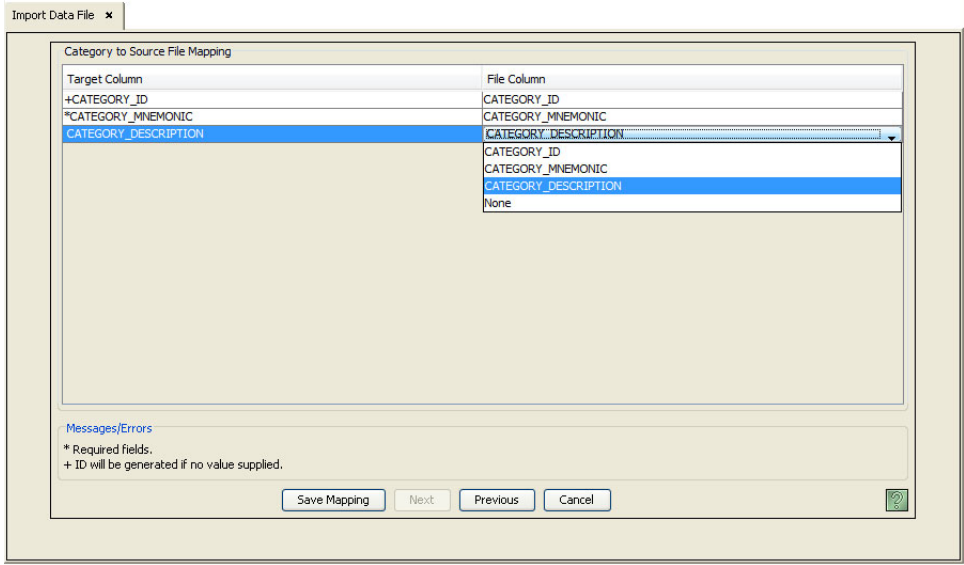

Figure 6-2. Category to Source File Mapping Page
- 7 Click Create Mapping. The 'Category to Source File Mapping' page appears, as shown in Figure 6-2.